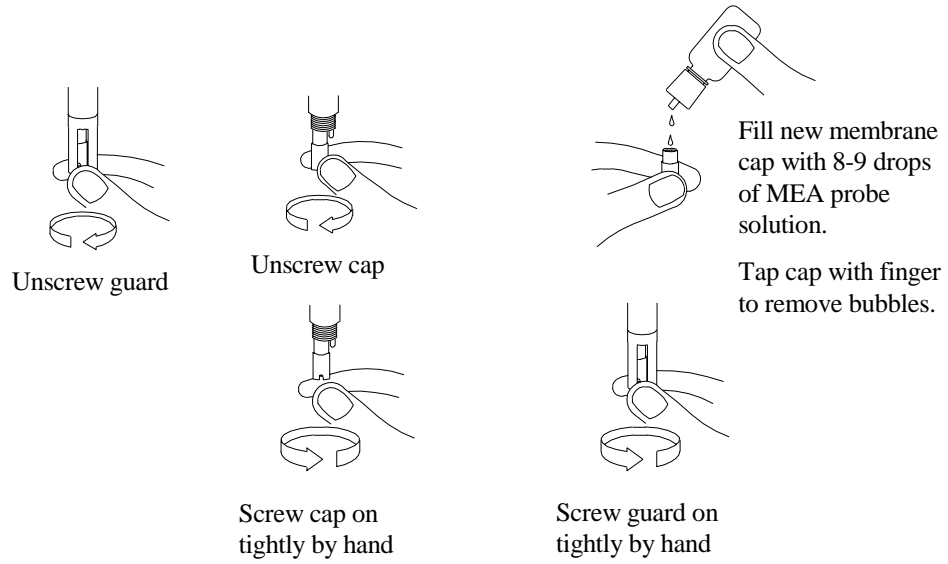

Figure 2
1. Unscrew and remove the probe sensor guard (see Figure 2).